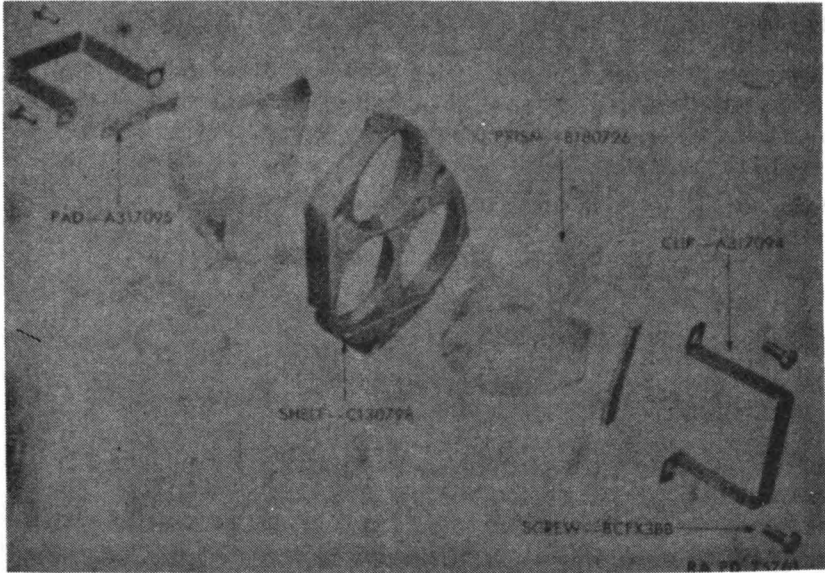

Figure 18—Observation Telescope M49—Prism Shelf Assembly C130797 Disassembled
(1) Make a pencil mark on, or otherwise inscribe, the unpolished surfaces of the prisms B180726 (fig. 18) and the adjacent surfaces of the shelf, so that each prism can be returned to its original position on reassembly.
(2) Remove the screws BCFX3BB (fig. 18) that hold the prism clips A317094 to the shelf. Carefully remove the pads and the prisms that are held by the clips, taking care not to chip or damage the prisms.